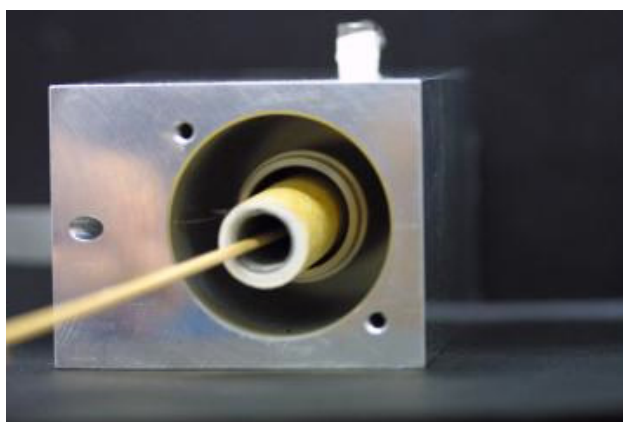

Figure 6-13
8. Exchange the sampling filter as shown in Figure 6-13.